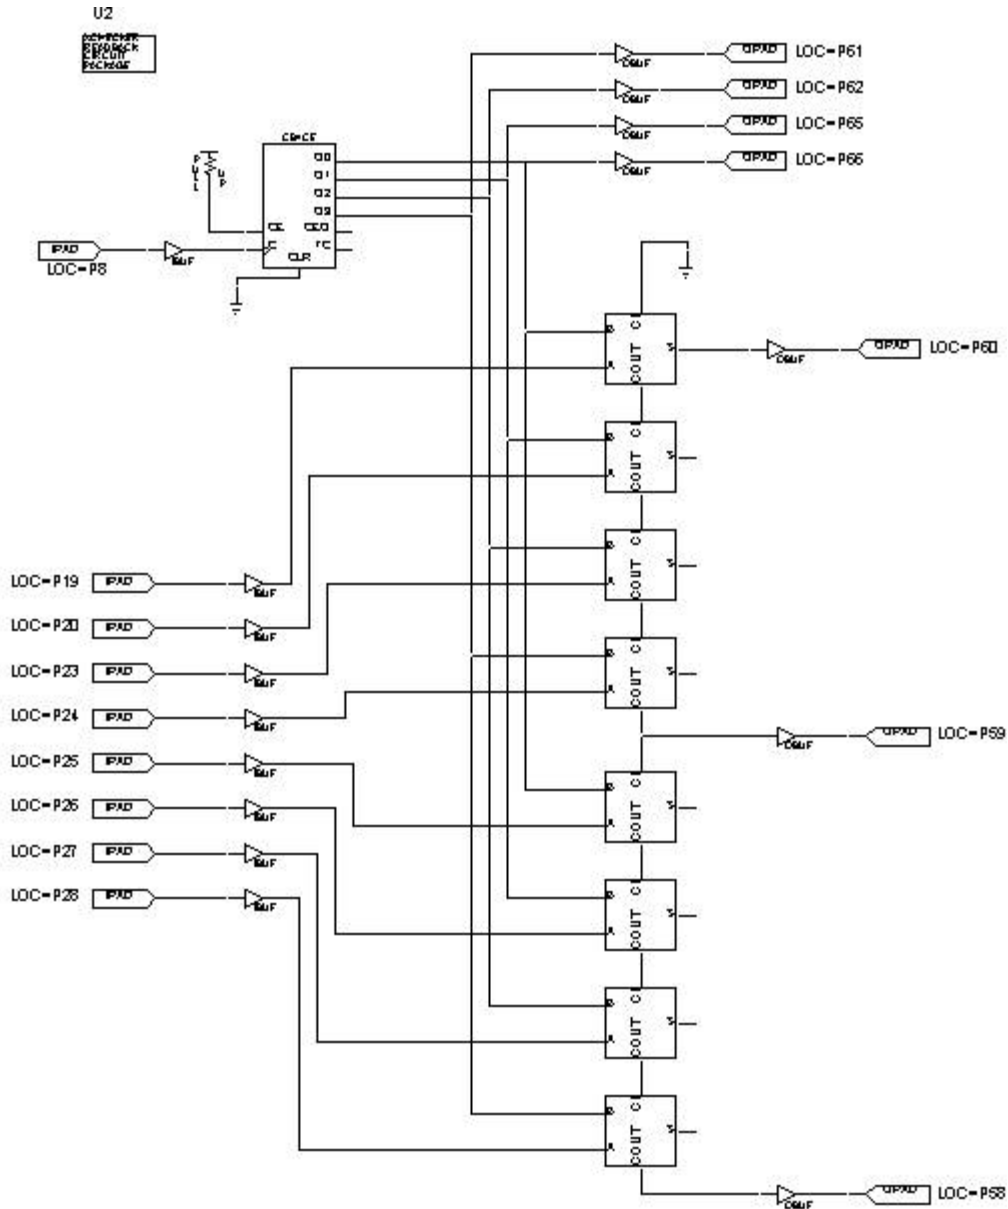

Figure 5: An eight-bit adder
We have entered and compiled the circuit in Figure 5, an 8-bit ripple adder summing the output of a 4-bit counter and four switches. Your task will be to measure the worst-case delay of the circuit.
3. Set the switches so 00000001 is one of the addends. (See Figure. 5 to determine which switch should be least significant)